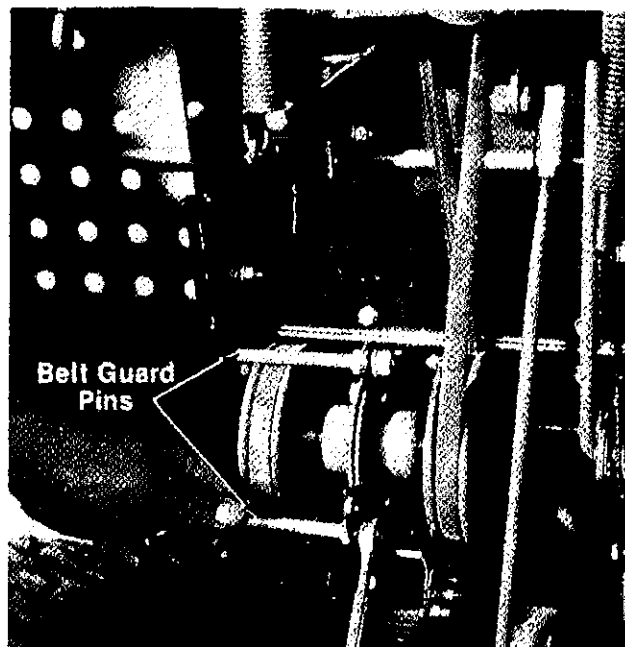

FIGURE 26.
4. Remove the two belt guard pins on the pulley assembly. (See figure 26)